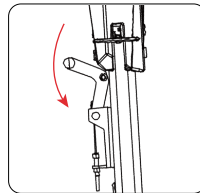
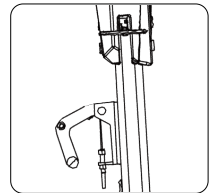

Figure03
Figure04
2. Lower the roller handle behind the operating handle until the squeegee head touches the floor (Figure 03-Figure 04).